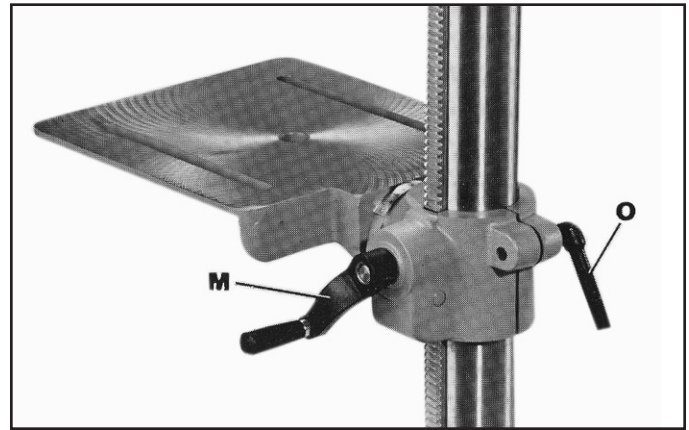

Fig. 8
7. Assemble table raising and lowering handle (M) Fig. 8, to shaft on table bracket and tighten set screw in handle against flat on shaft.
8. Thread table bracket lock screw (O) Fig. 8, into hole in table bracket, as shown.